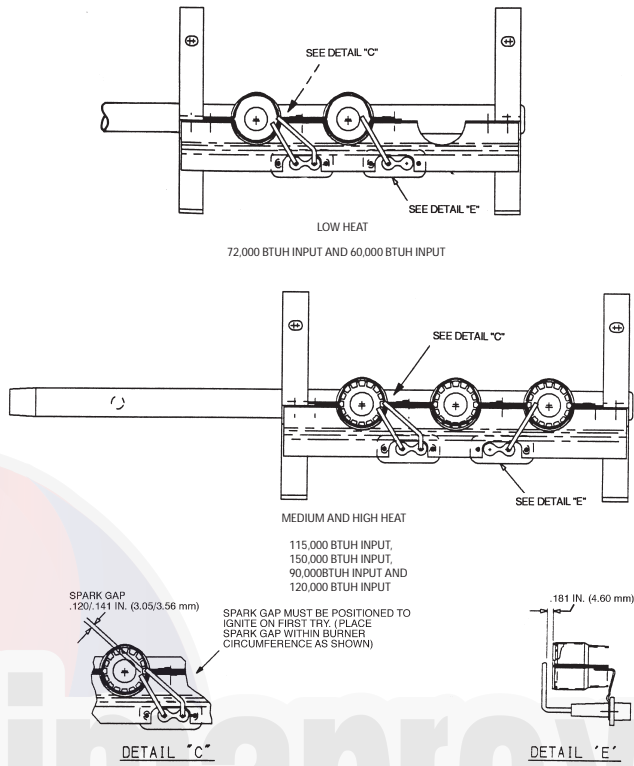
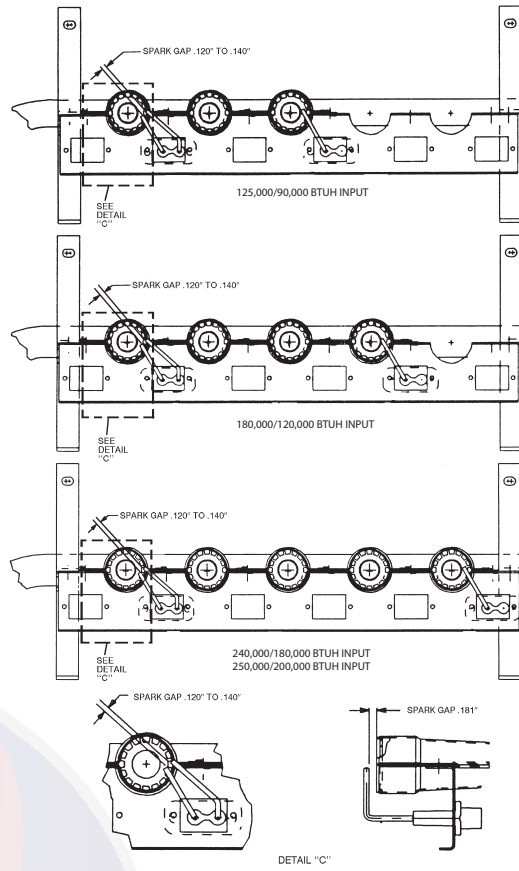

Fig. 53 - Spark Adjustment (Size 04-07)
Fig. 54 - Spark Adjustment (Size 08-09)
4. Adjust spark gap. (See Fig. 53 and Fig. 54.)